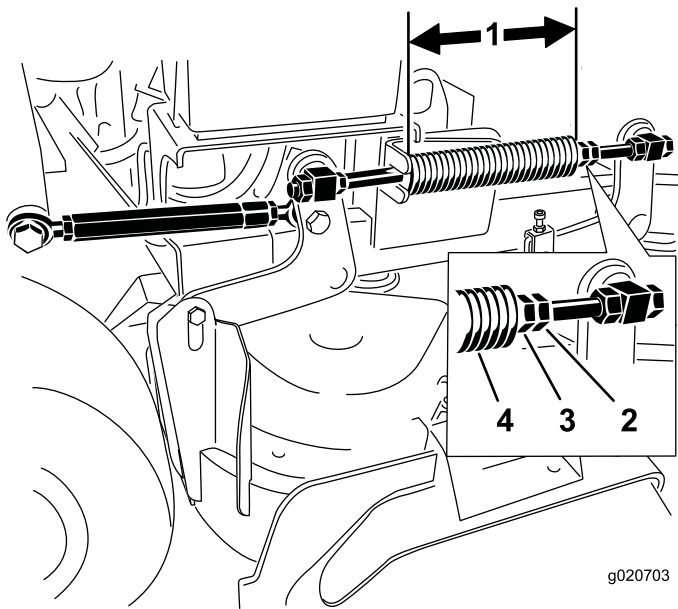

Figure 84
Note: Nominal length is 28.2 cm (11-1/8 inches) for 91 cm (36 inch) mower decks (Figure 84).
3. Adjust this distance by loosening the spring-jam nut and turning the nut in front of each spring (Figure 84).
4. Lock the nut into position by tightening the spring-jam nut (Figure 84).